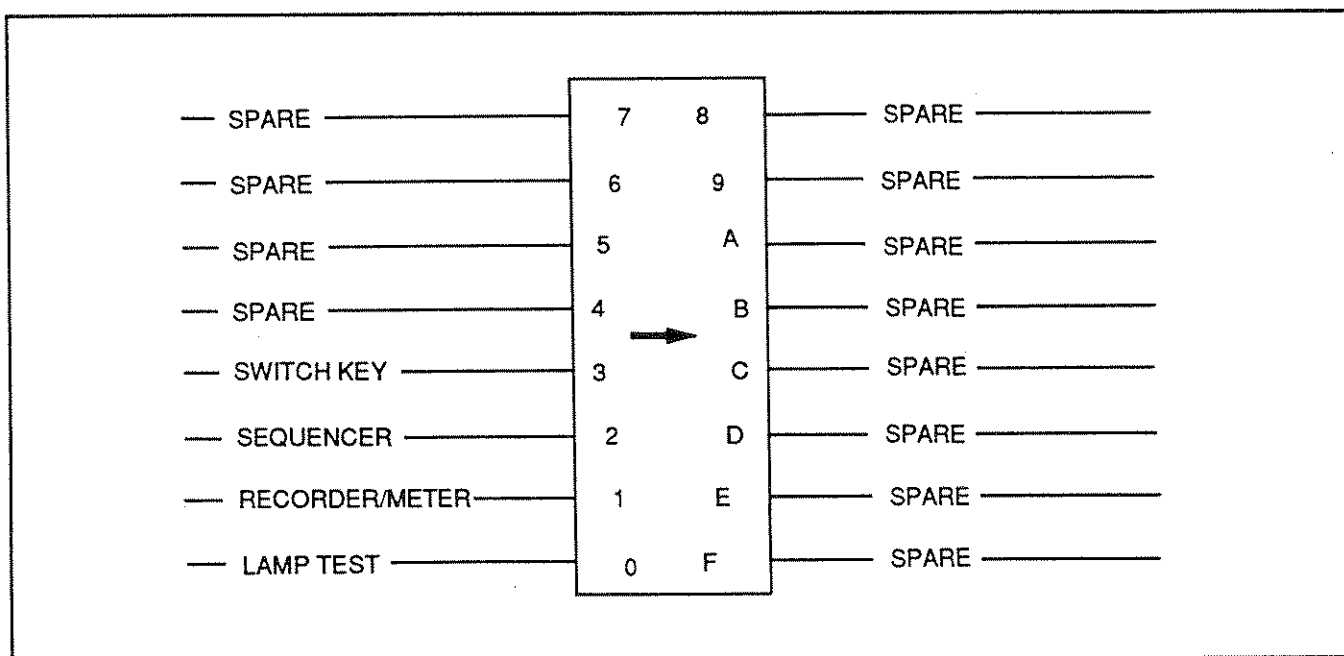

Figure 6-4. TEST Switch Positions
- (2) Using the front panel up and down arrow keys, scroll through the menu of end-of-string terminations until the desired table number, as listed in Table 6-4, appears on the dB CAL FACTOR display. (Factory preset value is Table No. 0.)
- (3) Press the LOAD REF key.
l. Set FUNCTION switch A5S2 to position B (BEC "Test"). This position of FUNCTION switch A5S2 is provided as an aid to troubleshooting. It is used in conjunction with TEST switch A6S1 to set the instrument to various fixed states of operation. Refer to Figure 6-4 for selectable test functions.
- (1) Lamp Test (position 0). In this position all the segments of all LEDs are turned on.
- (2) Recorder/Meter (position 1). In this position a ramp voltage is applied to both the analog meter and recorder output. The applied voltage drives the meter from zero to beyond full scale and the recorder output from zero to +13.0 volts.
- (3) Sequencer (position 2). An arrow symbol is sequenced across the display positions.
- (4) Switch Key (position 3). A single decimal point is lighted. As each front panel pushbutton switch is pressed, a corresponding value from 0 to 9 is displayed in eight front panel display positions.